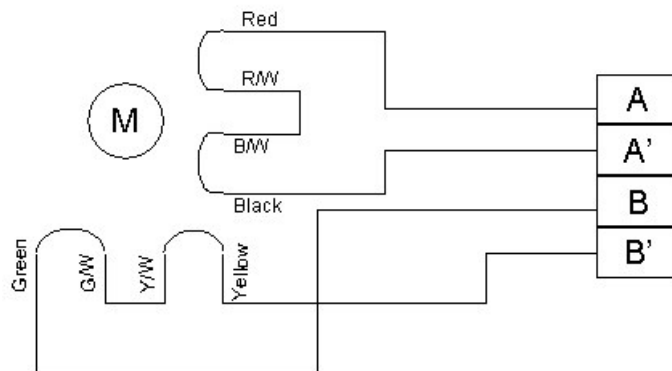

Figure 3.2: Correct wiring sequence provided by the manual.
- Results are compared to coils energizing sequence defined in the motor manual, table 3.1. The correct wire order was predicted. The motor terminals should be connected to the board according to the figure 3.2 taken from the motor drive manual.